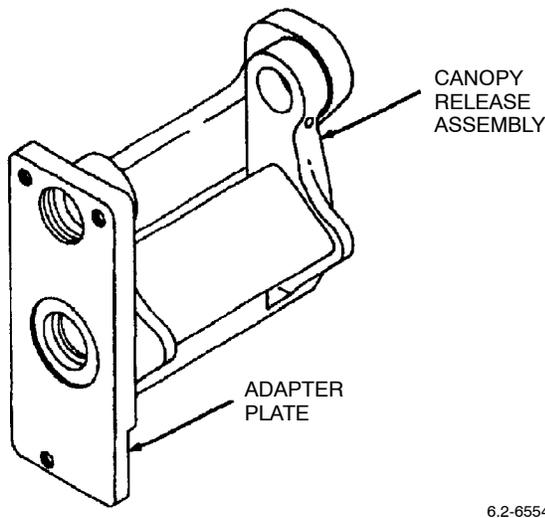

Figure 23. Align Canopy Release
a. Align canopy release with adapter plate (right hand shown) (Figure 23).